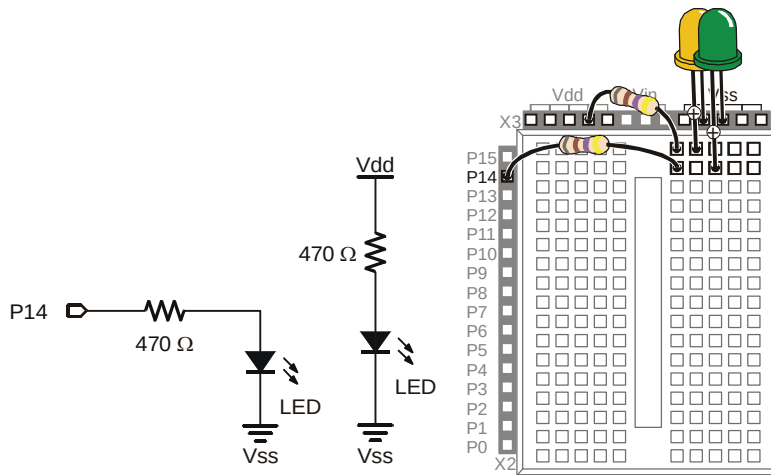

Figure 2-13
- ✓ Construct the second LED circuit as shown in Figure 2-13.